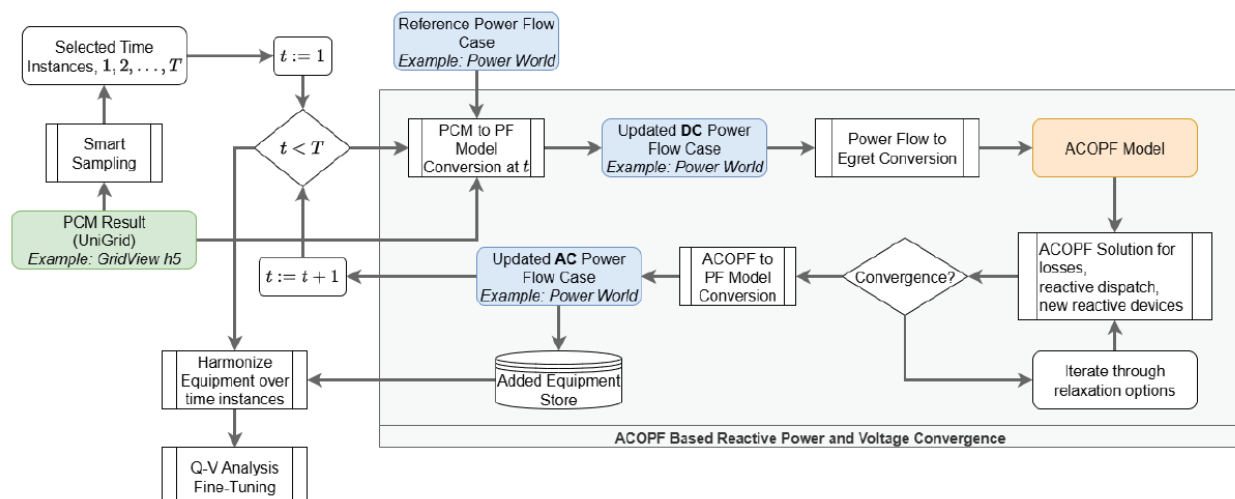

Figure 3.1. Robust AC Convergence Workflow. Colors represent model types: green is PCM, blue is C-PAGE.
- **High-Voltage DC lines (bidirectional → unidirectional):** PCM treats HVDC as directed flows on a single branch. On the other hand, the PF model contains explicit DC elements (or will later use ACOPF proxies) or equivalent representation for DC. In Step 3, the DC snapshot sets HVDC transfers so that terminal injections/withdrawals match the PCM flow direction and magnitude at the connected buses. (Figure 3.1 shows the ACOPF proxy model used later; Step 3 simply honors the PCM transfer at the PF terminals.)